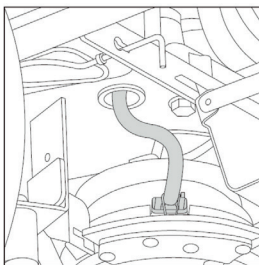
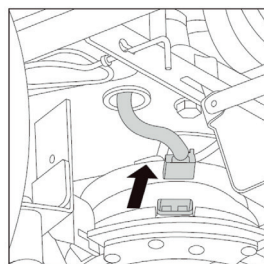

FIG.27B
FIG.27C
3. REMOVE THE ELECTROMAGNETIC CLUTCH FROM THE ENGINE CRANKSHAFT AND REMOVE THE CABLE (C, FIG.27B). (FIG.27B & FIG.27C)
7. REMOVA A POLIA MOTRIZ (G, FIG.27B) DO VIRABREQUIM DO MOTOR.